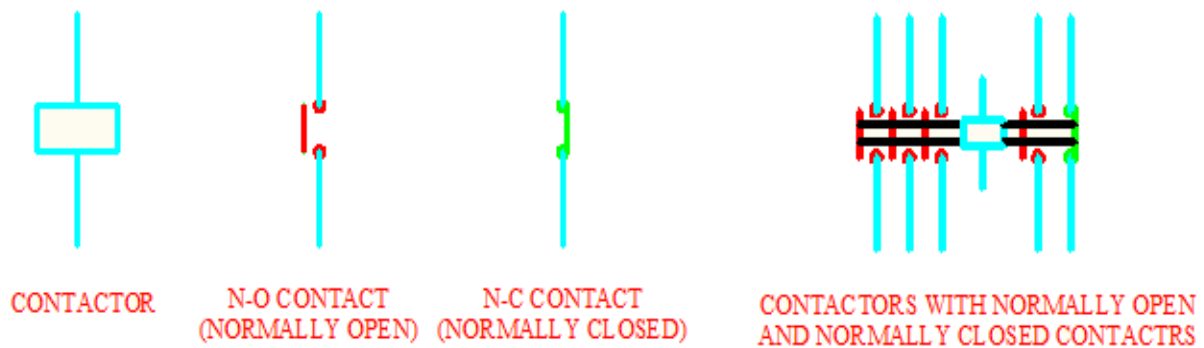

Fig.5.18 Symbols for contactor coil and contacts.
- Symbols used for contactor coil, contactor with main and auxiliary contacts, and photographic view of a contactor have been shown in figure. 5.18.